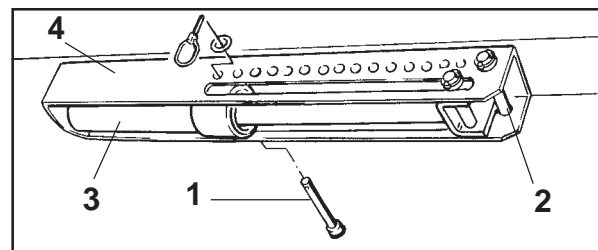

Fig. 7.15
- Pressurize the hydraulic ram (Fig. 7.15).